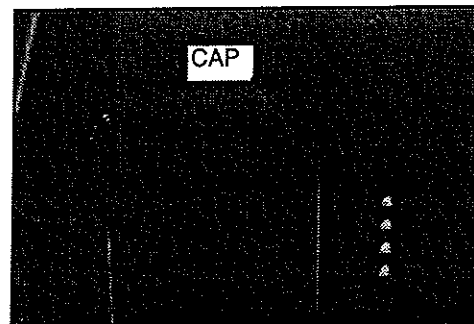

Fig. 1
1. With the right shelf removed it is easy to see the Hole in the cart to feed the flex line through (it has a cap on it.) (See Fig. 1)